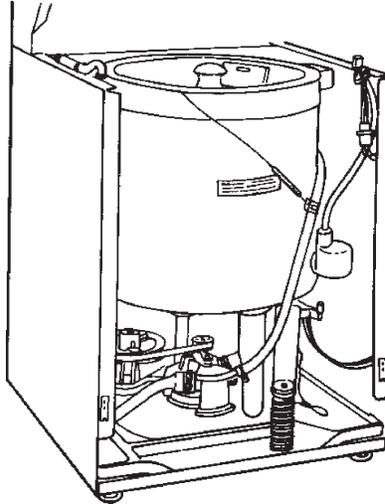

Fig. 5-10
7. Many of the washer components can now be accessed. (Fig. 5-10)